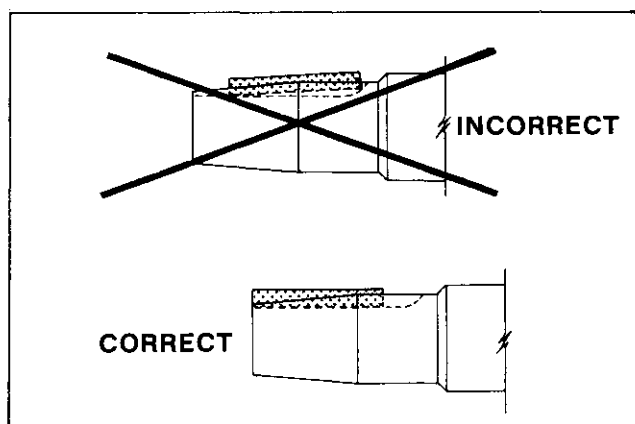

Figure 8-31. Correct And Incorrect Way To Install Flywheel Key
*DO NOT* allow the key to be pushed inward on the keyway while installing the flywheel. If the key rides up on the rounded surface at the end of the keyway as shown in Figure 8-31, it will act as a wedge and crack the flywheel hub.
2. Position key properly in keyway as shown in Figure 8-31 and carefully guide key slot in flywheel hub over the key, to avoid pushing the key inward.